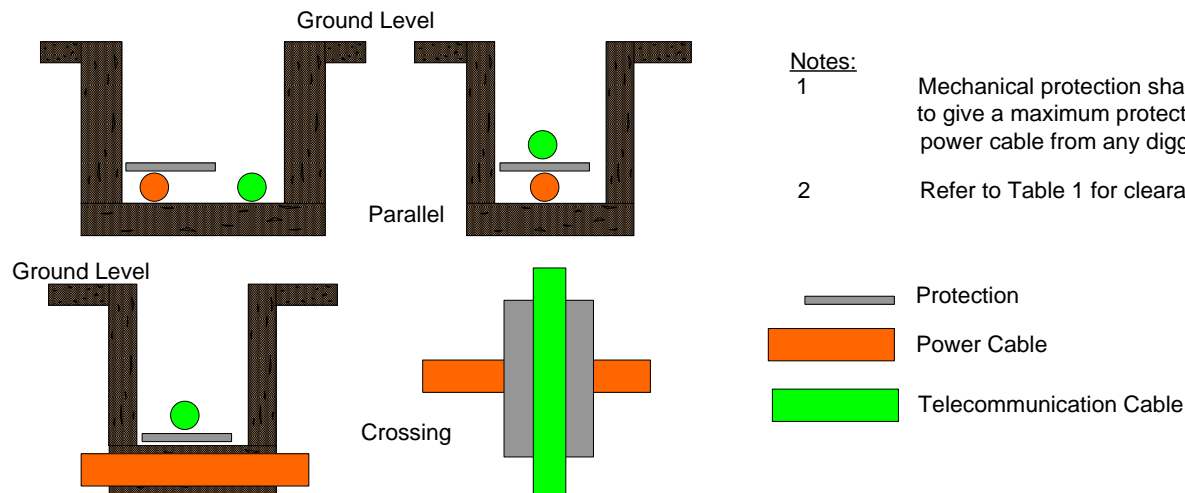

Fig 3. Examples of Installing Mechanical Protection in a Shared Trench
- Mechanical protection installations are detailed in Fig 3.